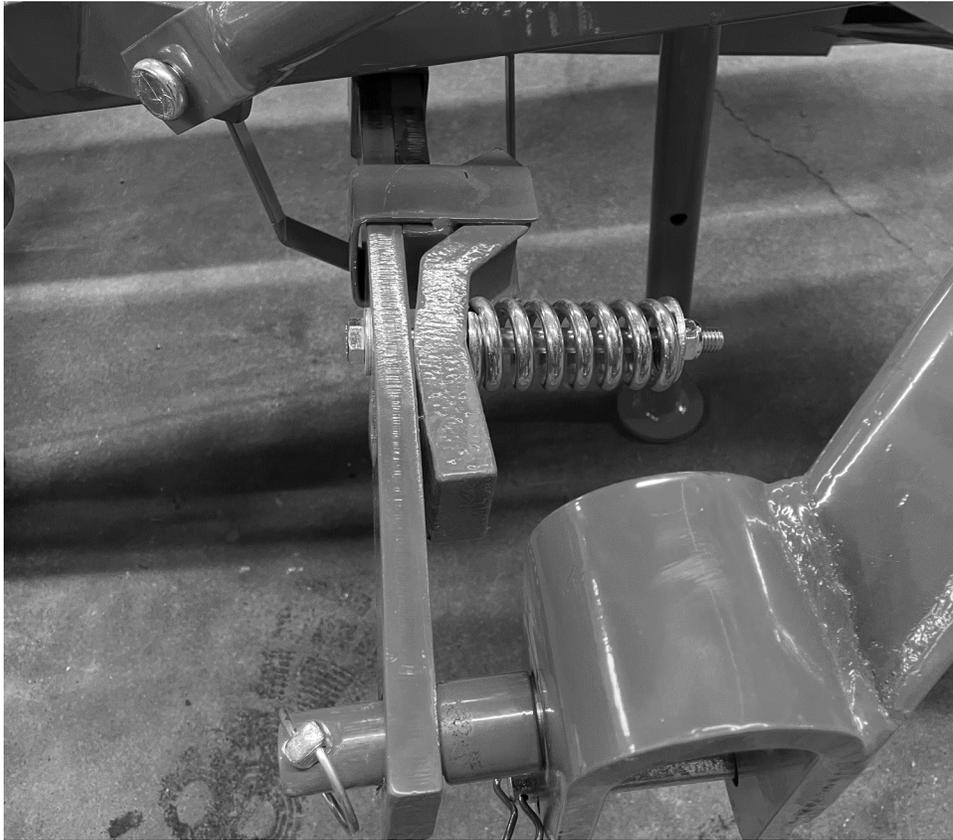

Figure 35
- 3.5.6 Move the mower into working/mowing position by first releasing the transport sway bar and the transport lock. Next, rotate the hitch pivot frame toward the breakaway bar and attach the bar to the frame as shown in Figure 35.